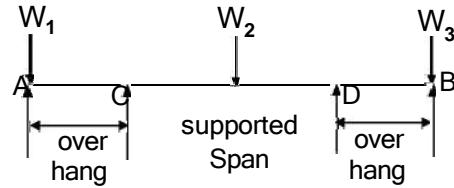

Fig. 4.3
**3. Overhanging beam**-An overhanging beam is one in which the supports are not situated at the ends i.e. one or both the ends project beyond the supports. In Fig. 4.3 C & D are two supports and both the ends A and B of the beam are overhanging beyond the supports C & D respectively.